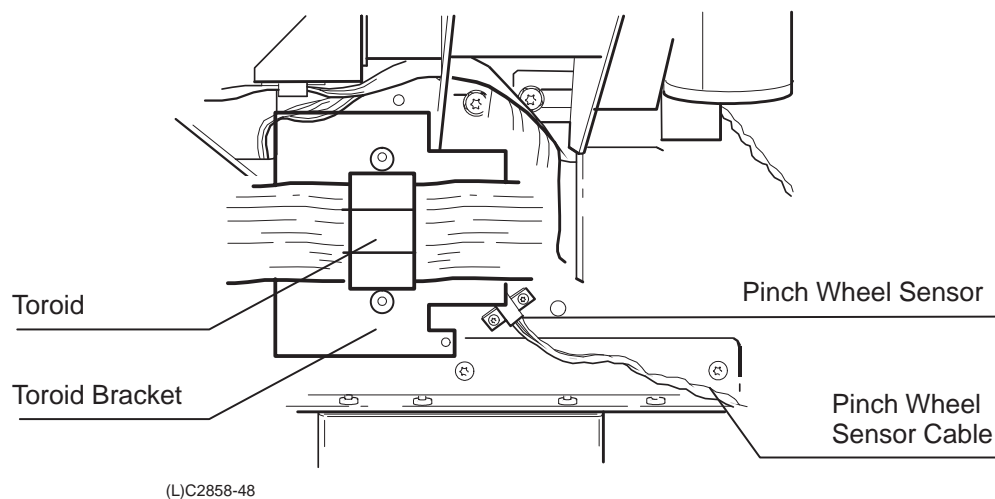

Figure 6-12.
5. Using a Torx T-10 screwdriver, remove the two screws that attach the toroid to the bracket. See Figure 6-12.